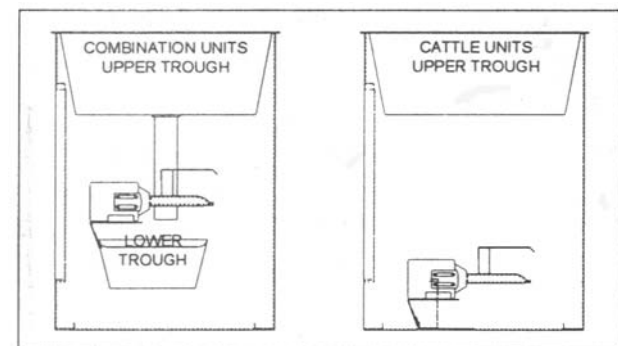

Figure 2
5. Mount the burner as follows (see Figure 2):